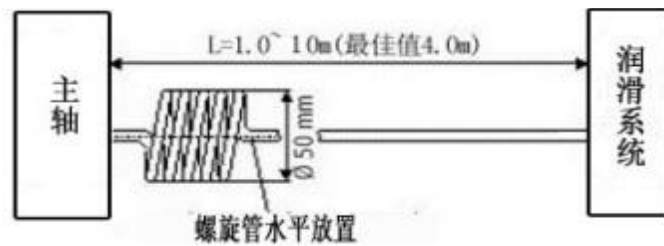

Figure 4.8 Schematic diagram of oil and gas lubrication hose
5)Each oil and gas pipe should have a spiral structure of 5 turns,with a diameter of about 50mm, about 0.5-1m from the spindle joint,and the axis of the spiral structure shall be horizontal or inclined not more than 30° from the horizontal to ensure that the lubricant can continue to supply soon after the spindle restarts, as shown in figure. 4.8.